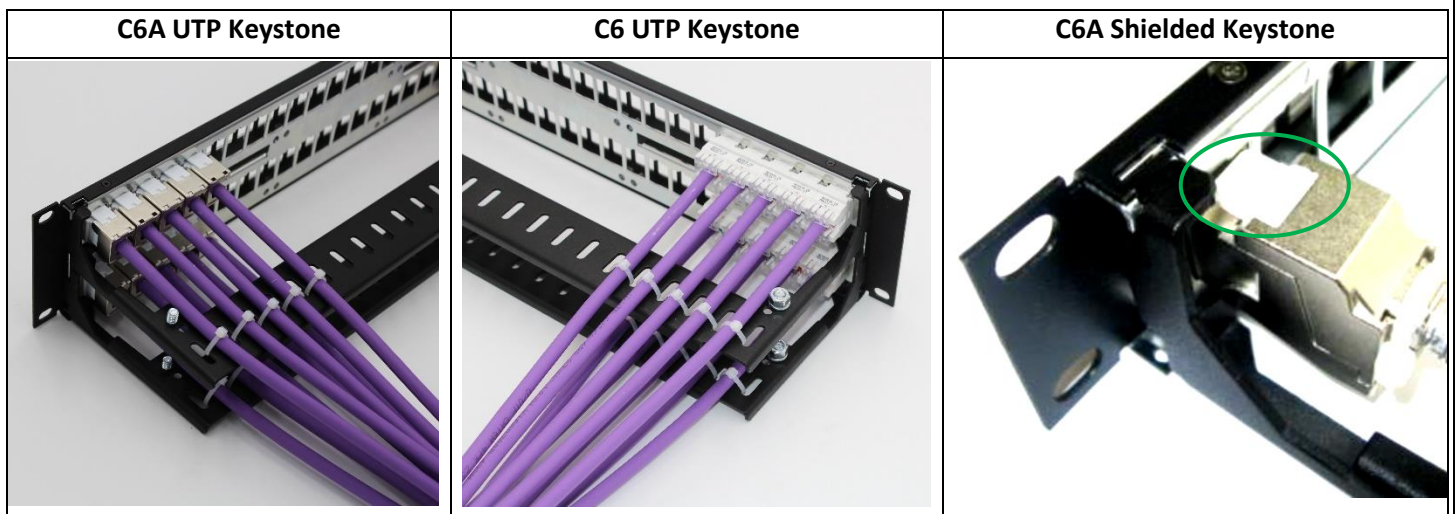

Fig.1
- b) Snap the jacks into the into the panel. Tilt the jack into position: locate the small latches at the bottom of the jack and position these at the bottom of the load bar, then position the large latch on the top of the jack facing upward and secure in the load bar. Use slim screwdriver to push latch for mounting and remove jack from the Patch Panel. Fig. 1. Note: Slim screwdriver are not supplied.